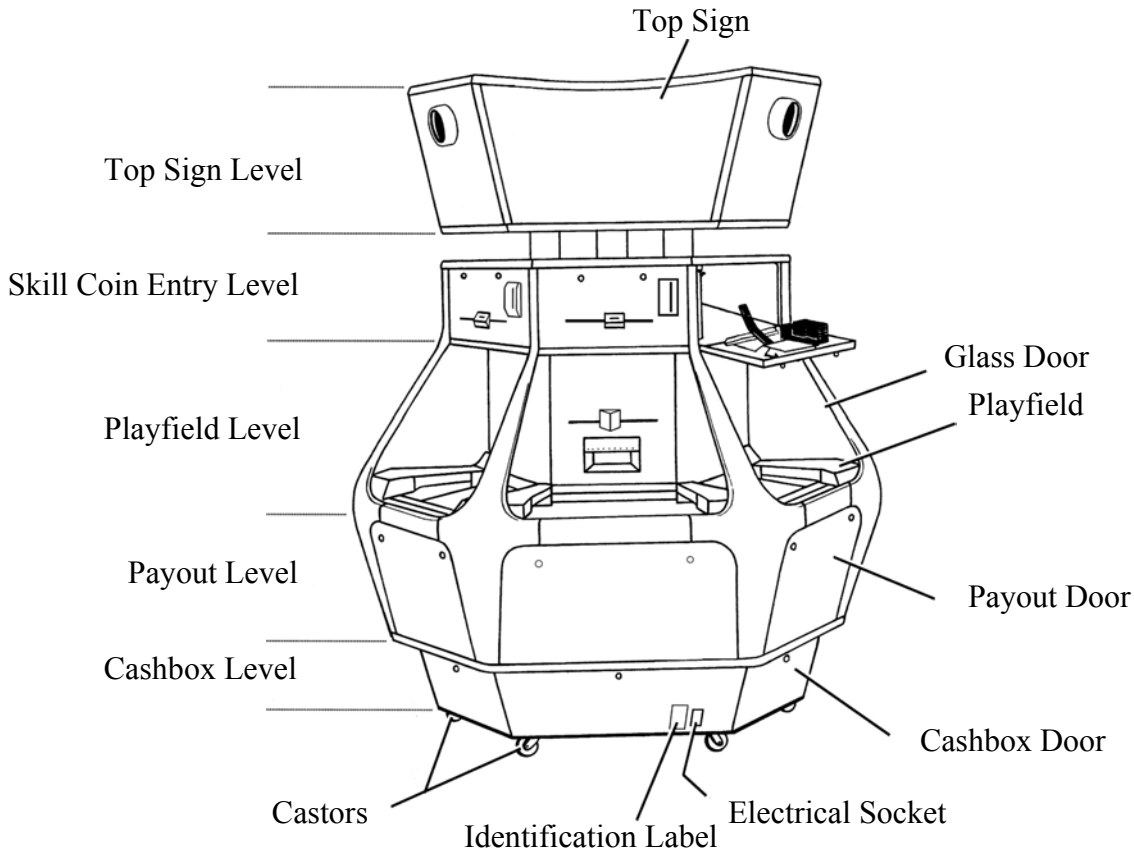
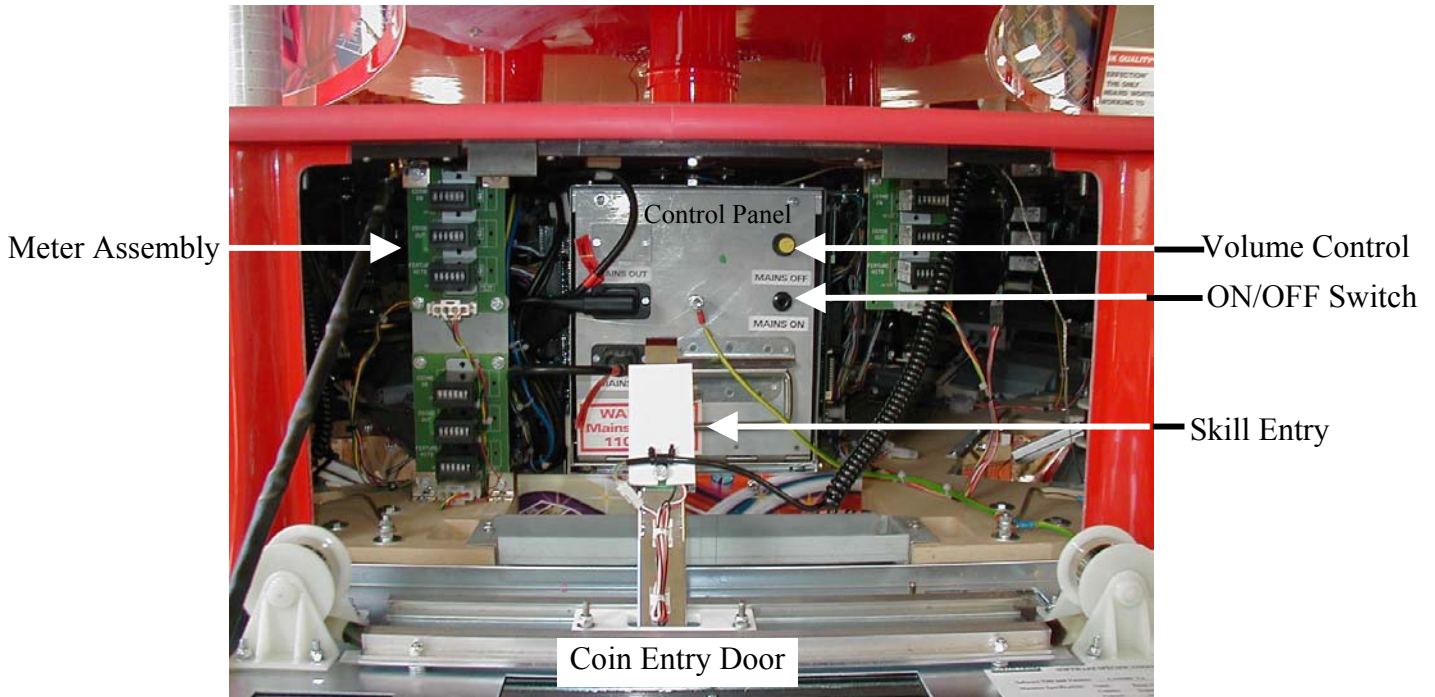

Figure 1 General View of Casino Nights Machine
Figure 3 - Control Panel (No 1 Play Section)
A machine Identification Label is located adjacent to the Bottom Electrical Mains Connector (Figure 1). This specifies the power supply requirements, configuration, serial number, part number and date of manufacture.
The structure of the machine is divided into 5 distinct levels as shown in figure 1. The 6 play sections are numbered anti-clockwise, the Number 6 section being readily identifiable by the Bottom Electrical Socket. Labels with the play section numbers are attached to the inner surfaces of the Coin Entry Doors.
- iii) Select the Power Selector Switch (Figure 3) to 'ON'.
- iv) If the bottom supply socket is used, select the bottom Electrical Supply Socket to 'ON' (Figure 1).
1. Ensure that the mains electrical supply is earthed and complies with the specification shown on the machine Identification Label (Figure 1).
3. Open the Coin Entry Door at the No 1 play section (Figure 1) to access the Control Panel. Two electrical plugs are located here labelled "Top" and "Bottom". Connect the appropriate plug to the Power input socket (Figure 3). Select the Power Selector Switch (Figure 3) to 'ON'.
1. Check that the Power Selector Switch (Figure 3) is set to 'ON'.
3. Set the Sound Volume to the desired level (Figures 3).